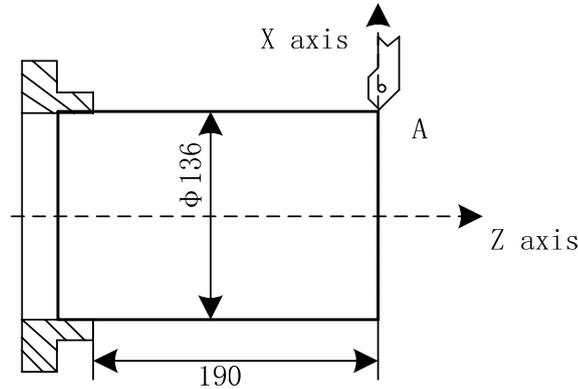

Fig. 10-10
- (11) The system is switched to the tool offset window, and the cursor moves to No.003 offset, X135, Z0 are input, and the input steps are the same those of the above (8);
- (12) The tool traverses to the safe position, and the tool change key is pressed to execute the No.4 tool in Manual mode;
- (13) The tool traverses to the toolsetting point as shown in Fig.10-10, point A;